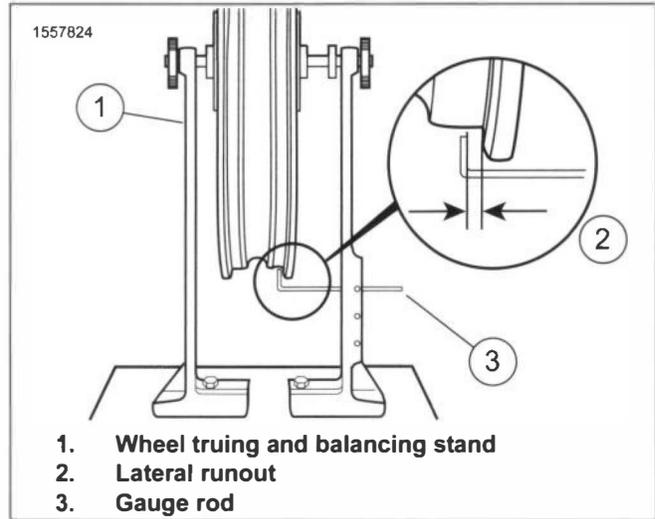

Figure 3-10. Checking Lateral Runout
1. See Figure 3-10. Mount wheel in WHEEL TRUING STAND (PART NUMBER: HD-99500-80).